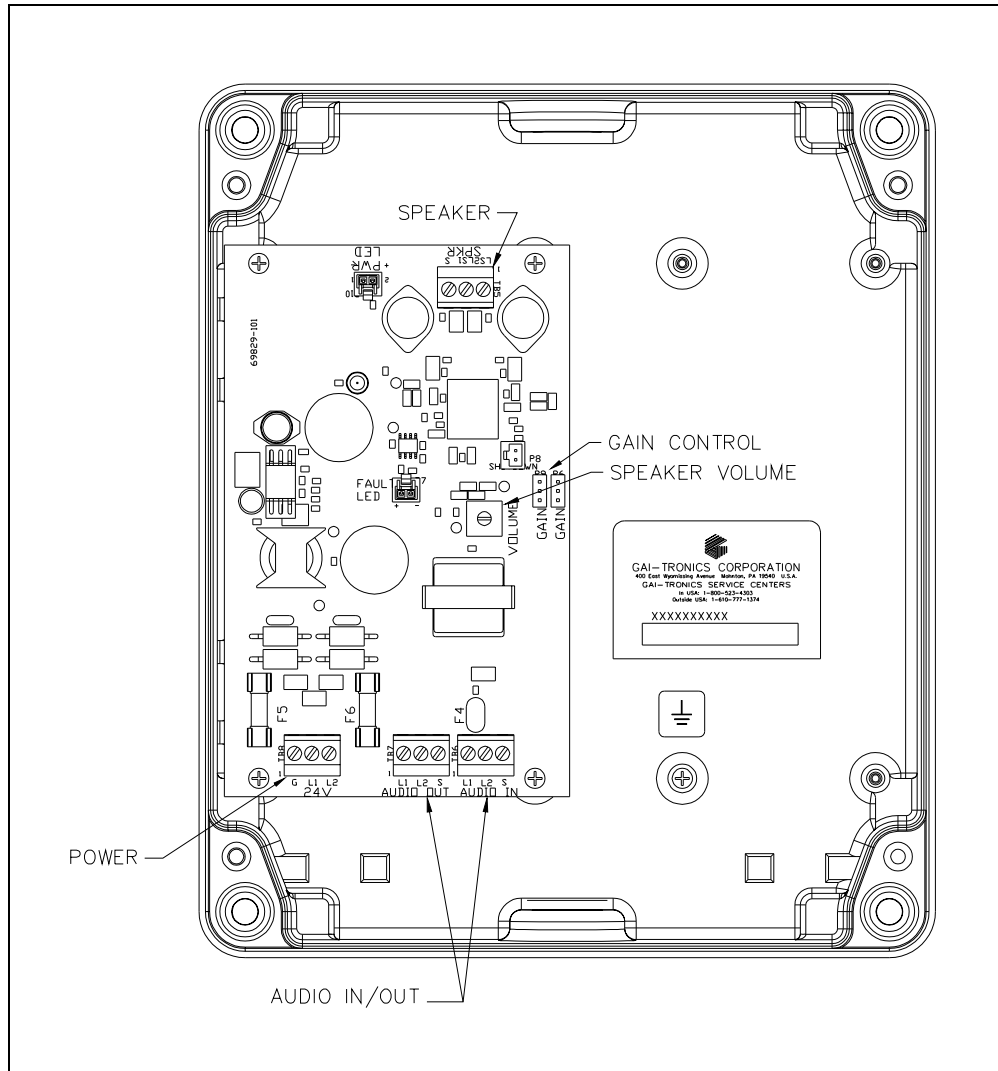
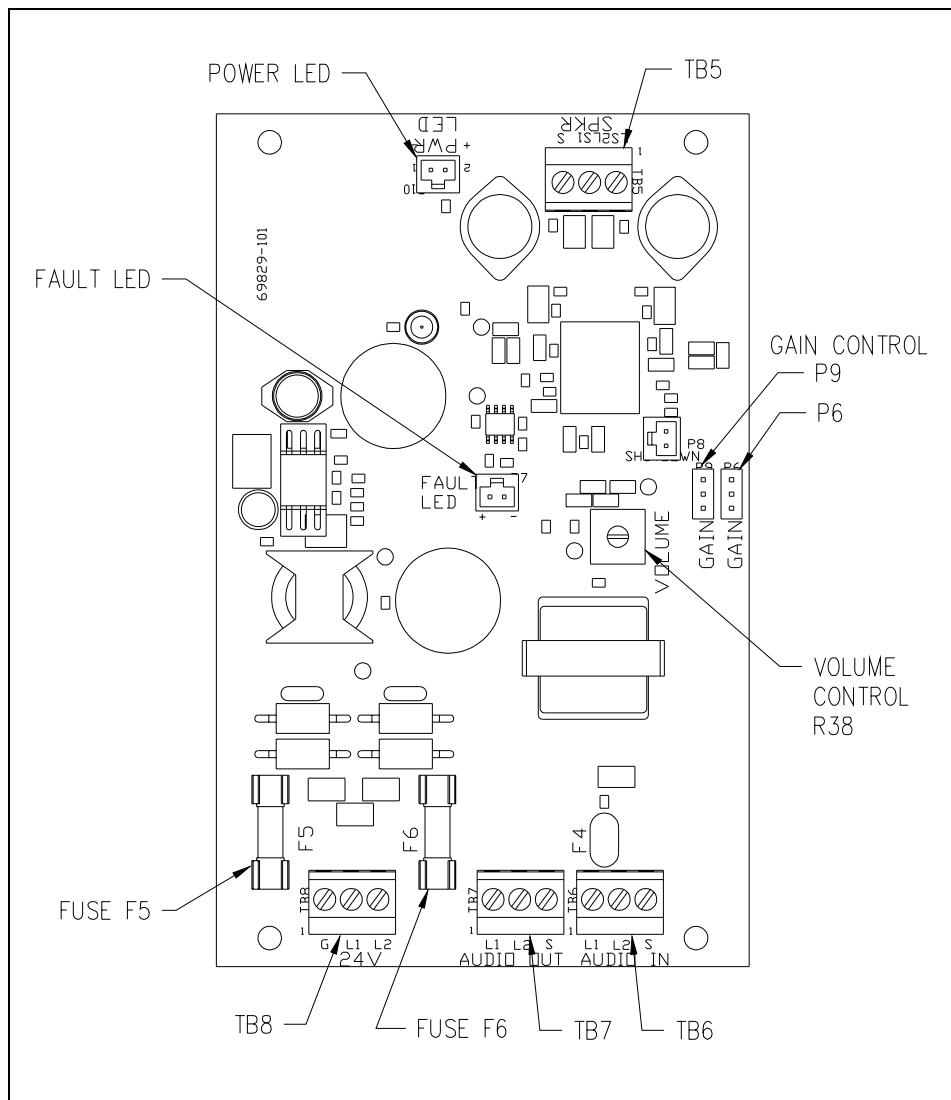
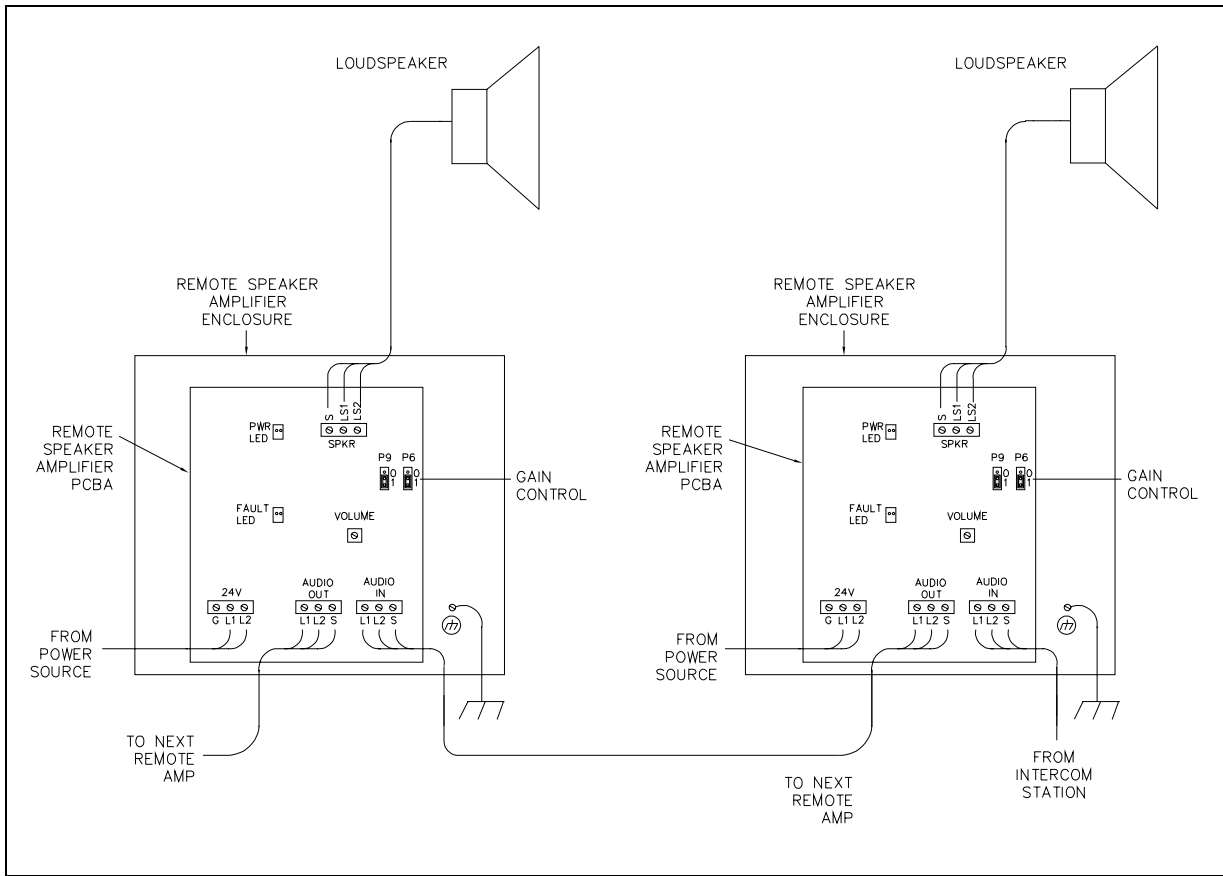

Figure 2. DSA Series Remote Speaker Amplifier Outline - Interior View
Figure 5. 69829-10x Remote Speaker Amplifier PCBA
Figure 6. Typical system interconnection diagram
Controls for speaker volume and gain are provided on the 69829-10x speaker amplifier PCBA, which is housed in the rear enclosure. All field terminations (audio in/out, power, and speaker) are made in the rear enclosure. Refer to Figure 2 and Figure 6.
3. Install all connections as indicated below. Refer to Figure 5 for the location of the PCBA components wiring details and Figure 6 for the wiring details of the typical system configuration.
Refer to Figure 6 for a typical system wiring diagram.